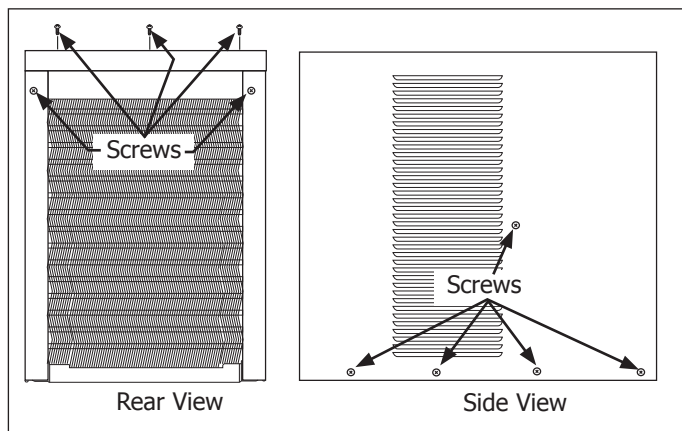

Figure 4-74.
3. Extract the screws from each side of unit. Extract the screws securing the cabinet wrapper/sleeve to the back of the unit. (See Figure 4-74)